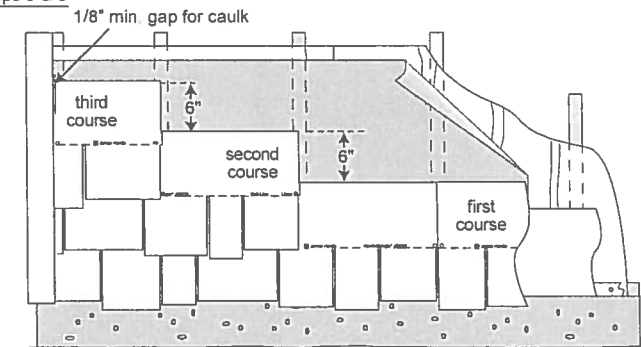

**Figure 15**
Install HardieShingle® panels with joints butted in moderate contact. Due to overlapping of the joints, caulk is not required except where panels abut trim boards. (figs 15 & 17). Ensure keyways do not line up on subsequent courses.
- 2) Place first panel so that panel end centers over stud. Trim panel as needed. Butt the cut end into trim as shown (figs 15 & 17). When installing over a band board or any horizontal surface, leave 1/4" gap between bottom of siding and flashing.
- 4) Start the second course, by removing the equivalent of one full stud cavity (16" or 24" OC), again abutting the cut end into the trim (figs 15 & 17). This is to prevent pattern repetition. Repeat step 3.
- 5) Start the third course, by removing the equivalent of two full stud cavities (figs 15 & 17) and repeat step 3.
Panels for sidewall applications are available in 48" lengths. Pieces needed for one square (100sq.ft.) of product coverage = approximately 50, based on a maximum 6" exposure from the top edge of HardieShingle panels in subsequent courses (refer to Figure 15).